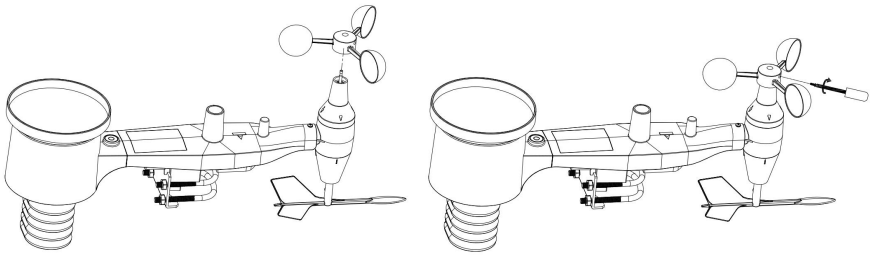

Figure 16: Wind speed cup installation diagram
① Push the wind speed cup assembly onto the shaft located on the opposite side of the wind vane, as shown in Figure 16 (left). Ensure it
② Tighten the set screw, as shown in Figure 16 (right). Tighten until the cup assembly is securely fixed and cannot be pulled off the shaft.
③ Make sure the cup assembly can rotate freely. There should be no noticeable friction when spinning.